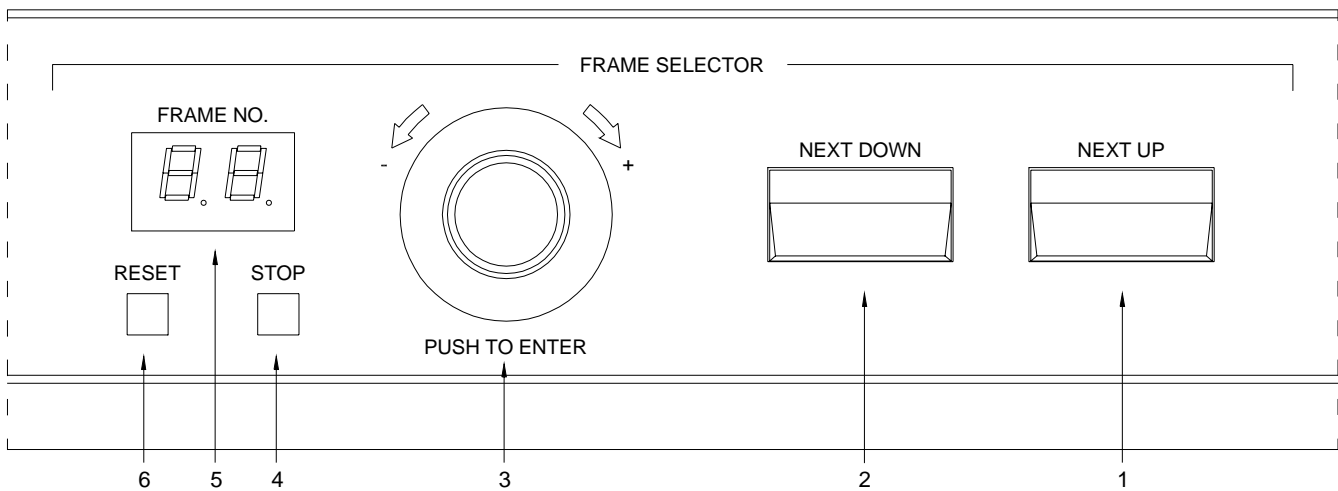

Figure 4-3-4. Frame Selector
As shown in Figure 4-3-2 the Film Holder is in the middle of the viewing area. To switch between Normal Mode and High Film Clip Mode, press and hold the Stop button (item 4 in Figure 4-3-4) for more than 2.5 seconds.
As shown in Figure 4-3-3 one of the Film Holders is in the middle of the upper half viewing area and the next Film Holder is in the middle of the lower half viewing area. The High Film Clip mode is useful mainly with the Rolloscope MD, where it can provide two rows of 18 x 24 cm films above the digital monitors. To switch between High Film Clip Mode and Normal Mode, press and hold the Stop button (item 4 in Figure 4-3-4) for more than 2.5 seconds.
The controls on the frame selector are shown in Figure 4-3-4.